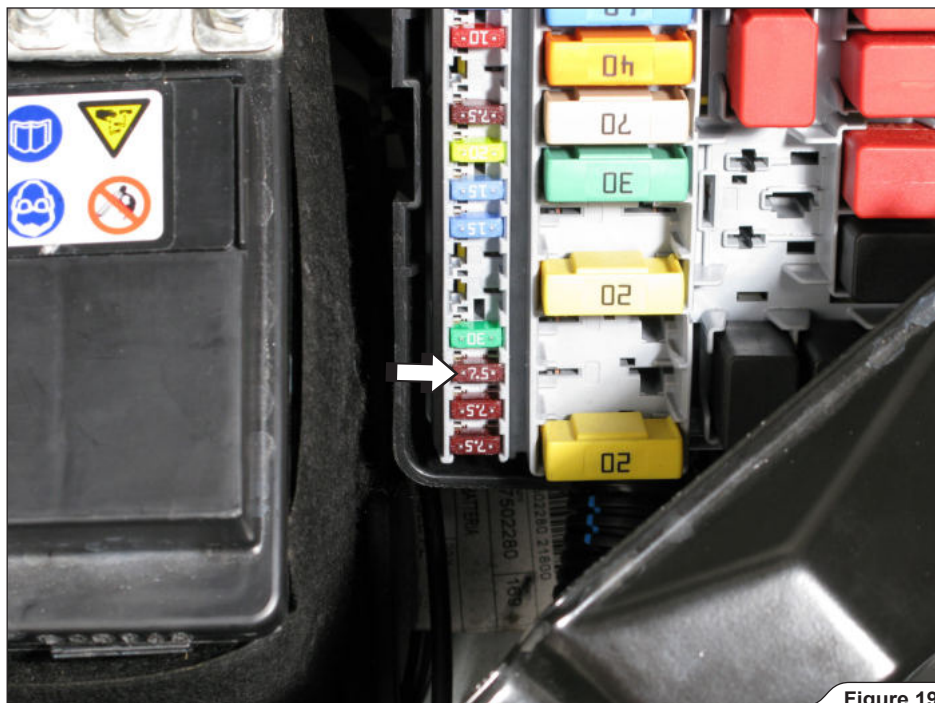

Figure 19
15. For optional wireless kit only: remove the marked 7.5A fuse from F16 fuse spot (Figure 19).